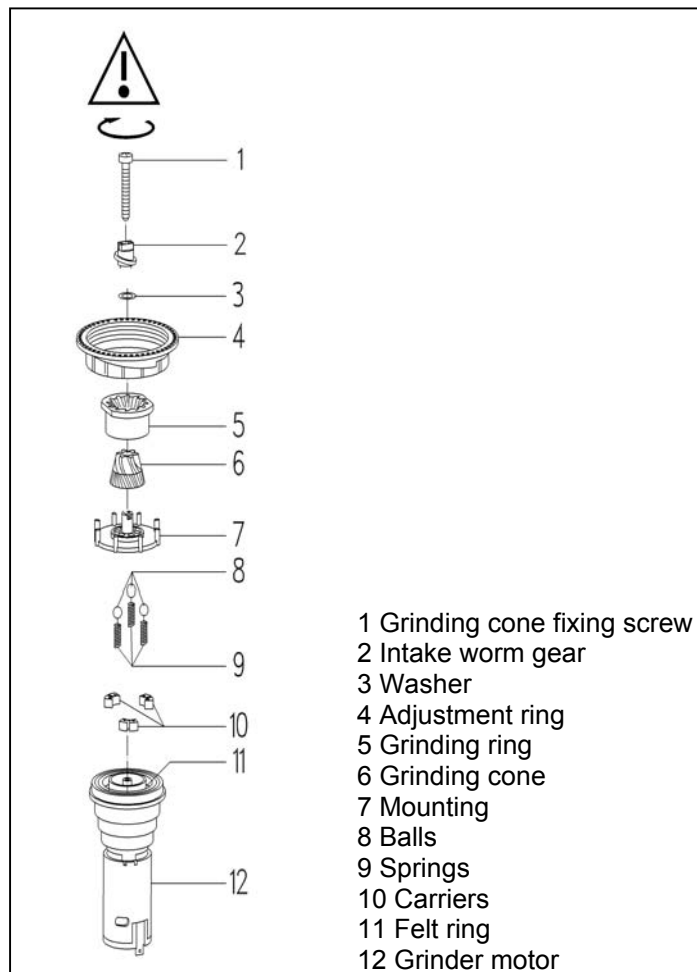

Figure 5-46: Grinder
12. Remove the grinding cone fixing screw (Figure 5-46, Item 1) by turning it clockwise.
13. Remove the intake worm gear (Figure 5-46, Item 2).
Refer to figure 5-46 below...